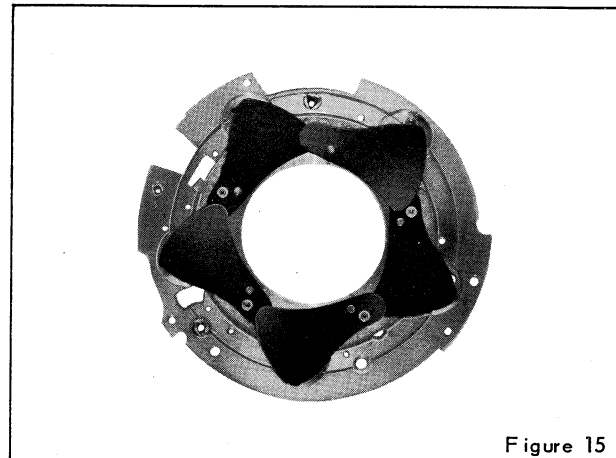

Figure 15
5. **BLADE** over the blade with double blade bushing and stud. The back of the mechanism plate should appear as shown in figure 15.